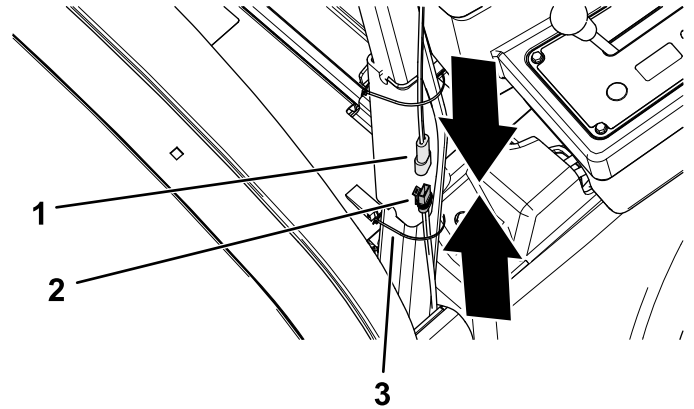

Figure 7
1. Plug the 2-socket connector of the power harness into the 2-pin connector for the sunshade wire harness (Figure 7).
2. Secure the power harness to the roll-bar tube with a cable tie (Figure 7).